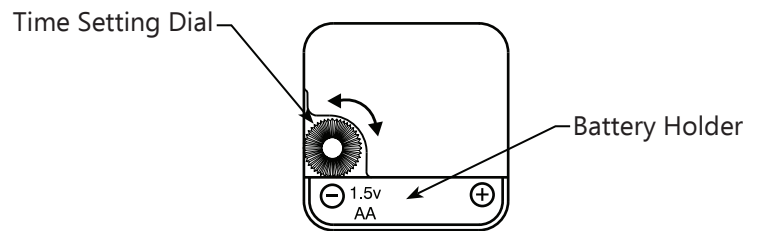

Figure 7
- b. Install one "AA" size alkaline battery according to the +/- symbols in the Battery Holder (Figure 7).
- c. Set the time by using the Time Setting Dial (Figure 7) to rotate the hands to the correct time.